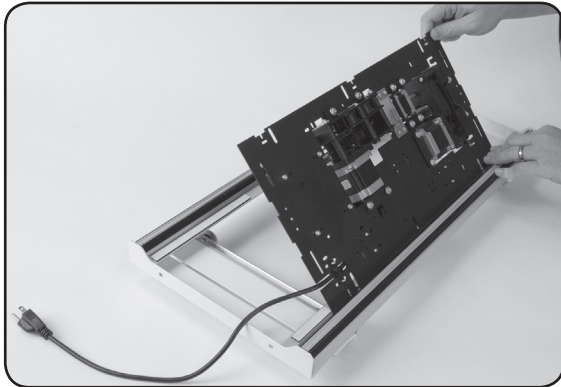

Fig 1-3
Step 1-1: Insert the Motor Plate into the bottom carriage plate at an angle as shown in **Fig 1-3**.